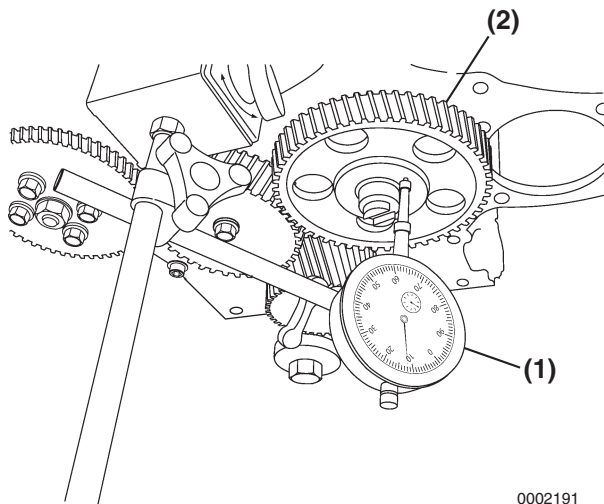

Figure 6-46
- **Method A:** Install a dial indicator (**Figure 6-46, (1)**) on the cylinder block. Move the camshaft and gear (**Figure 6-46, (2)**) in and out to measure the end play. Record the measurement. See *Camshaft* on page 6-7 for the service limit.